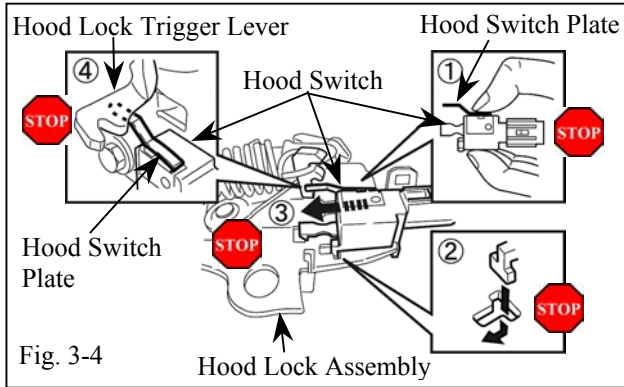

Fig. 3-4
- (d) Grasp and hold the hood switch as shown. (Fig. 3-4)
- (e) Locate the opening on the hood lock assembly. (Fig. 3-4)
- (f) Fit the hood switch on the hood lock assembly by sliding the hood switch in the direction of the arrow as shown. (Fig. 3-4)
- (1) Make sure the hood switch reaches the end of the sliding.
- (2) Check that the hood switch plate is positioned under the hood lock trigger lever.